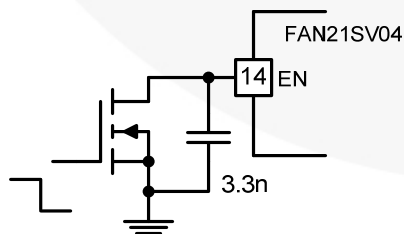

Figure 30. Enabling with External Control
FAN21SV04 has an internal pull-up to the enable (EN) pin so that the IC is enabled once  $V_{IN\_Reg}$  exceeds the UVLO threshold. Connecting a small capacitor across EN and AGND delays the rate of voltage rise on the EN pin. The EN pin also serves for the restart whenever a fault occurs (refer to the Auto-Restart section). If the regulator is enabled externally, the external EN signal should go HIGH only after  $5V_{Reg}$  is established. For applications where such sequencing is required, FAN21SV04 can be enabled (after the  $V_{CC}$  comes up) with external control, as shown in Figure 30.